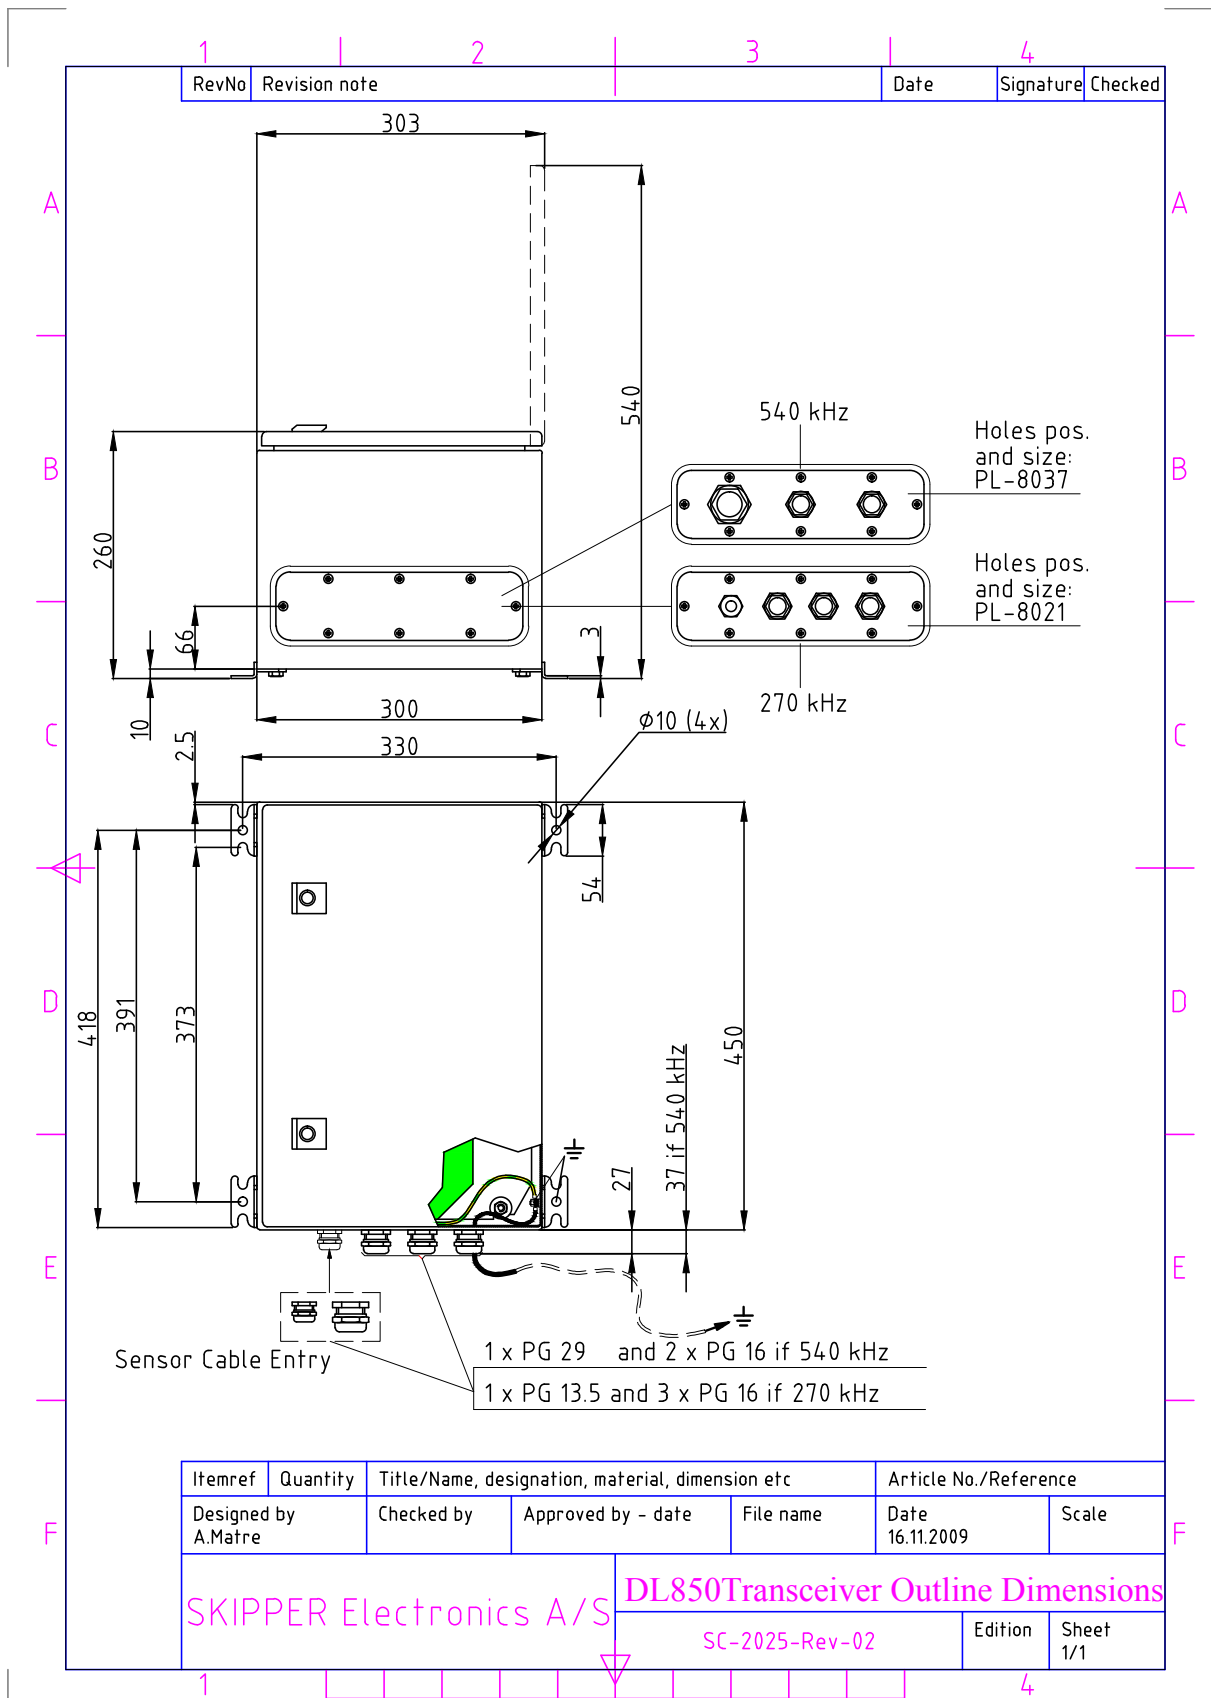

Fig. 10.6. Transceiver Unit Dimensions
- Fig. 10.6. Dimensional drawing of transceiver unit. See “Transceiver Unit Dimensions” on page 73.